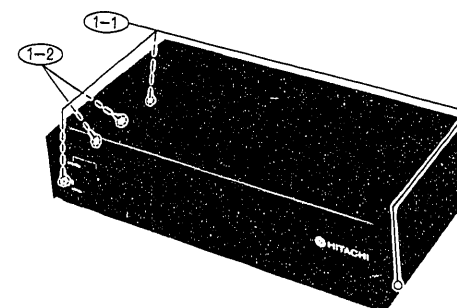

Fig. 1
1. Top Panel Removal (Fig. 1)
- 1) Remove the top panel. (Fig. 1)